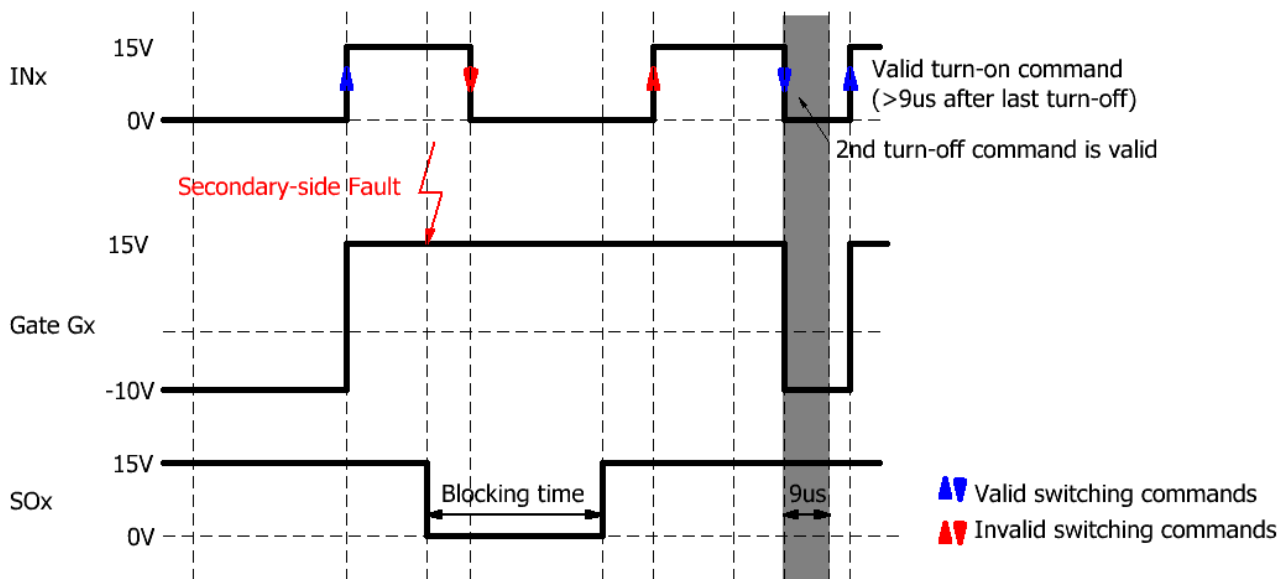

Fig. 8 Example of turn-off behavior after secondary-side fault detection (CSHDx connected to COMx)
- A first turn-off command (see first red arrow in Fig. 8) must be followed by a turn-on command (see second red arrow in Fig. 8 which must be applied after the blocking time has elapsed), before the driver channel can be turned off. The driver channel will only be turned off after the second turn-off command, as shown in Fig. 8.